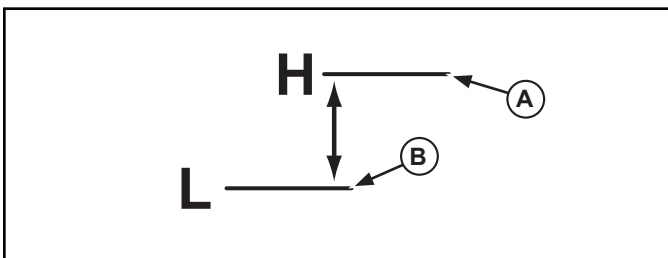

Figure 3. Water Level Marks.
2. Remove food pans and fill the well with clean fresh water, until water level is between the "L" low (B) and "H" high (A) marks. See Figure 3. Do not overfill. Always maintain water in well.